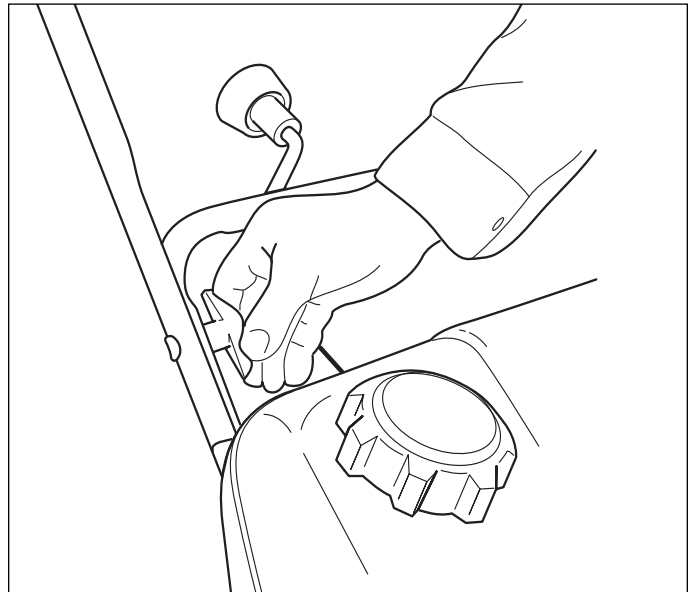

Figure 2. Lift Handles and T-Knobs
1. Lift up folding handle to align it with lower handle and tighten the T-knobs securely as shown in Figure 2.